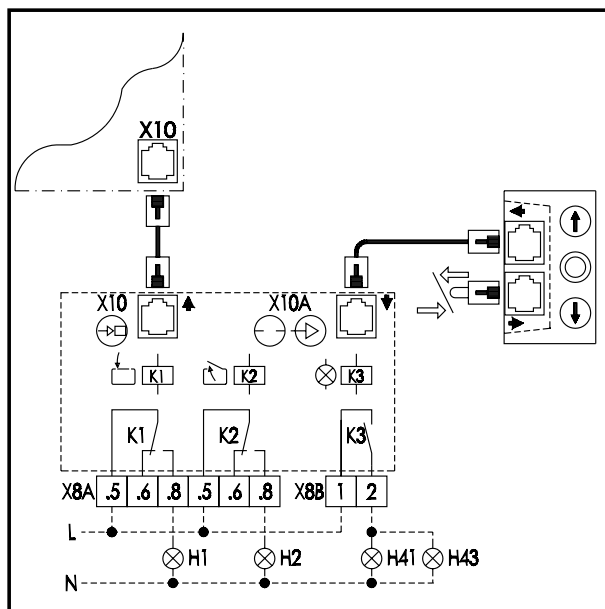

Fig. 12: Trave limit signal and signal light
- Connect both sockets X10 of control unit and retrofit kit with a system cable, as shown in fig. 12.